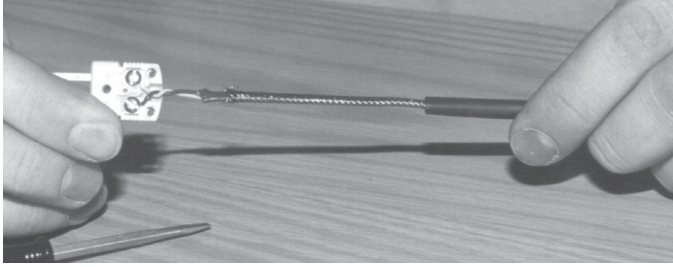
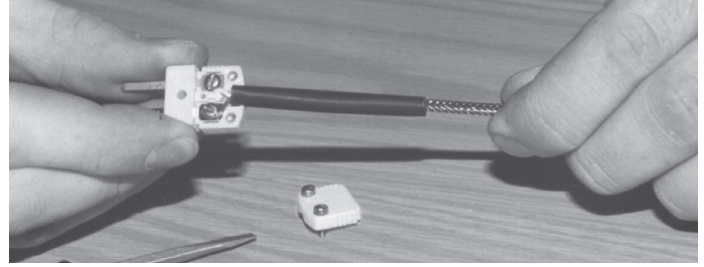

Figure 5. Wires installed and twisted
Figure 6. Heat shrink in place
- Twist the connector 1-1/2 turns (Figure 5) and slide the Heat Shrink Tubing into the connector (Figure 6).